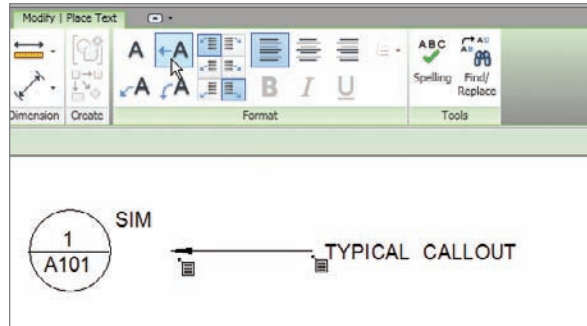

FIGURE 11.49 Adding the text to the legend
2. On the Modify | Place Text tab, click the One Segment button, as shown in Figure 11.49.
3. Pick two points for the leader, and type **TYPICAL CALLOUT** (see Figure 11.49).